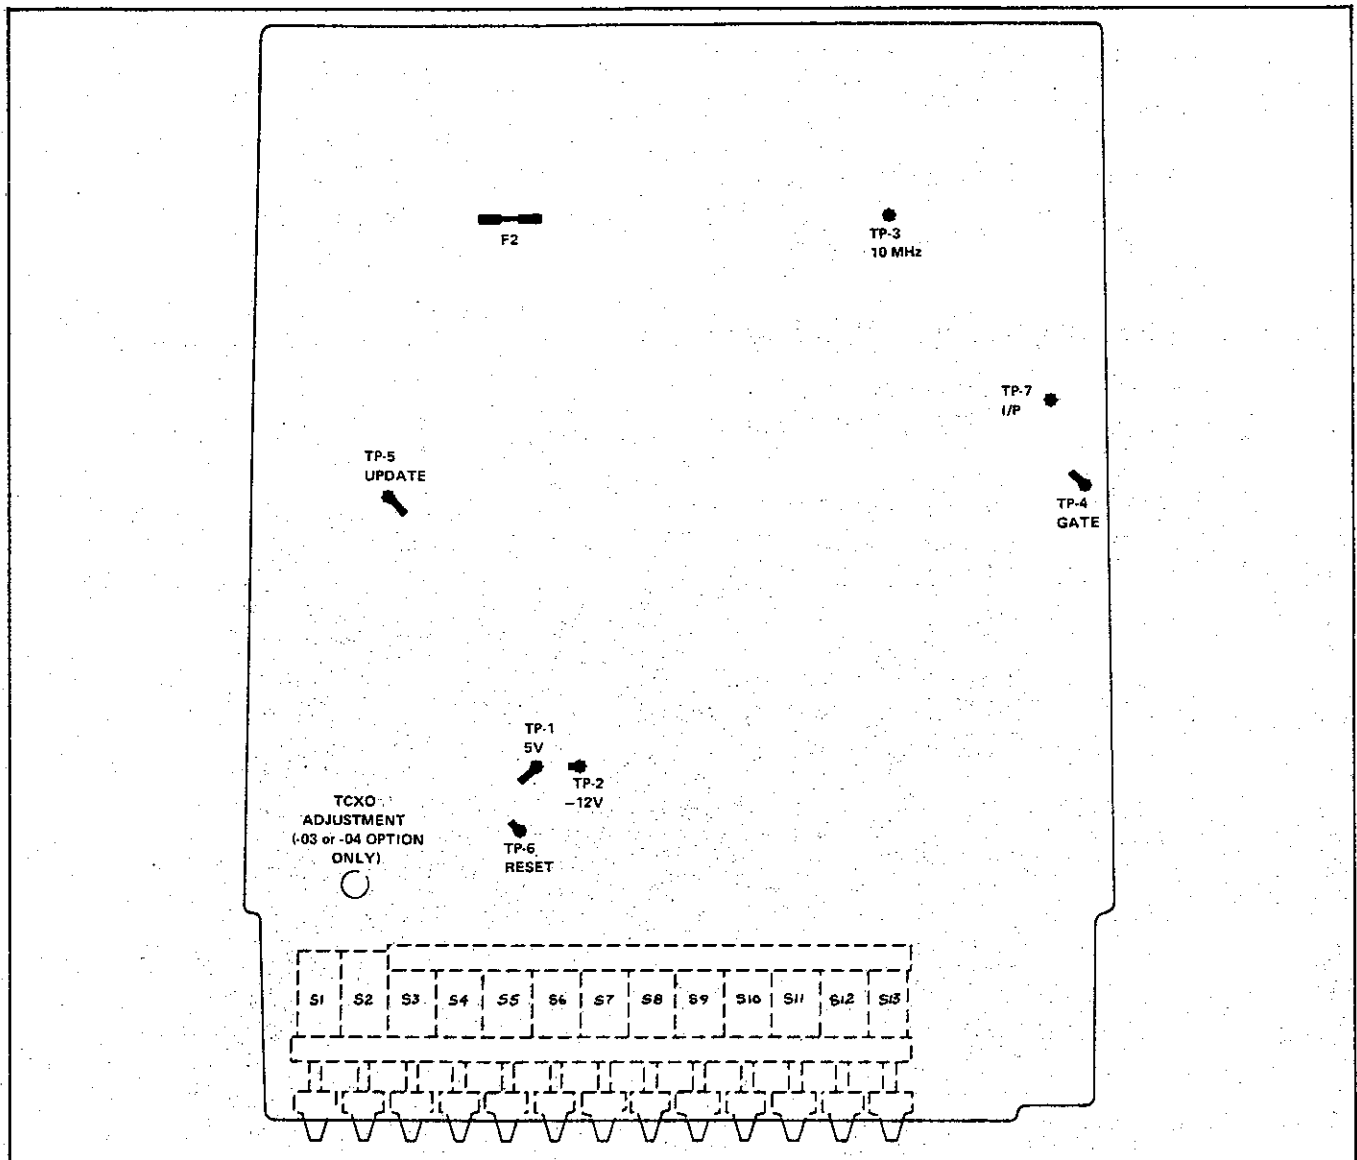

Figure 4-2. Main PCB (Bottom View)
5. Using a nonconductive screwdriver, adjust the TCXO through the Main PCB (see Figure 4-2) to obtain a reading of (overflow) 000.0000 \pm 3 counts in the LSD.